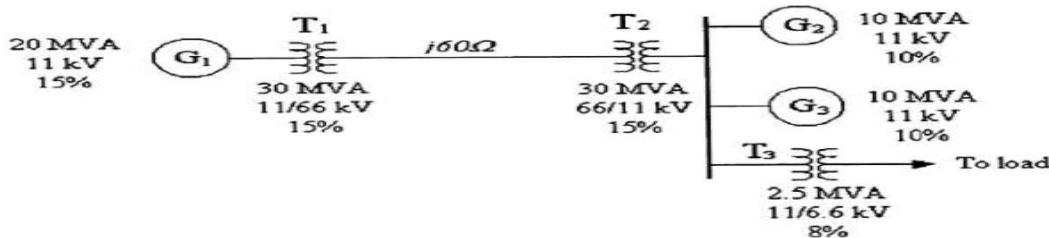

Fig.1
- (b) Draw an impedance diagram for the three-phase system shown in Figure 1, expressing all values as per-unit quantities on a 50 kVA base. 8M